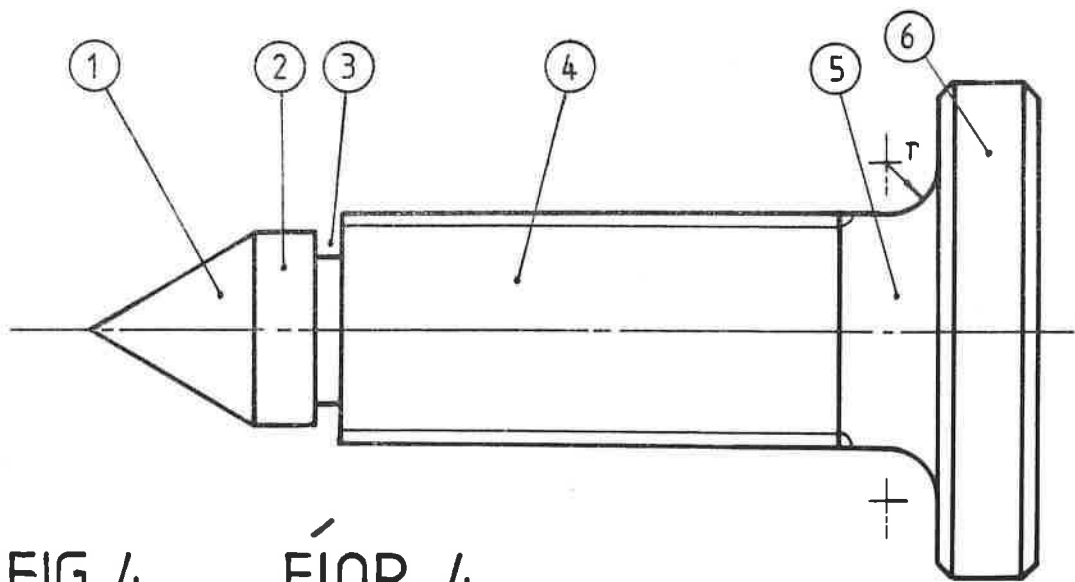

FIG. 4 FÍOR 4
4. (a) Using data table below, make a fully dimensioned drawing of the machine part shown in Fig. 4